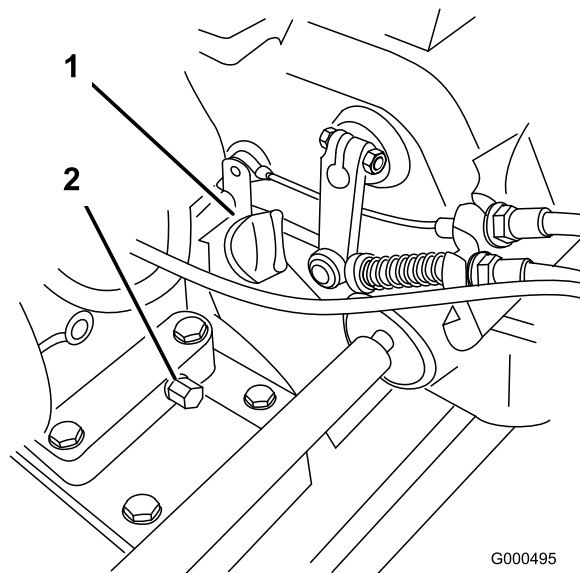

Figure 20
1. Position mower so the engine is level and clean around oil level gauge (Figure 20).
2. Place a drain pan at rear of machine under drain plug (Figure 20). Remove drain plug.